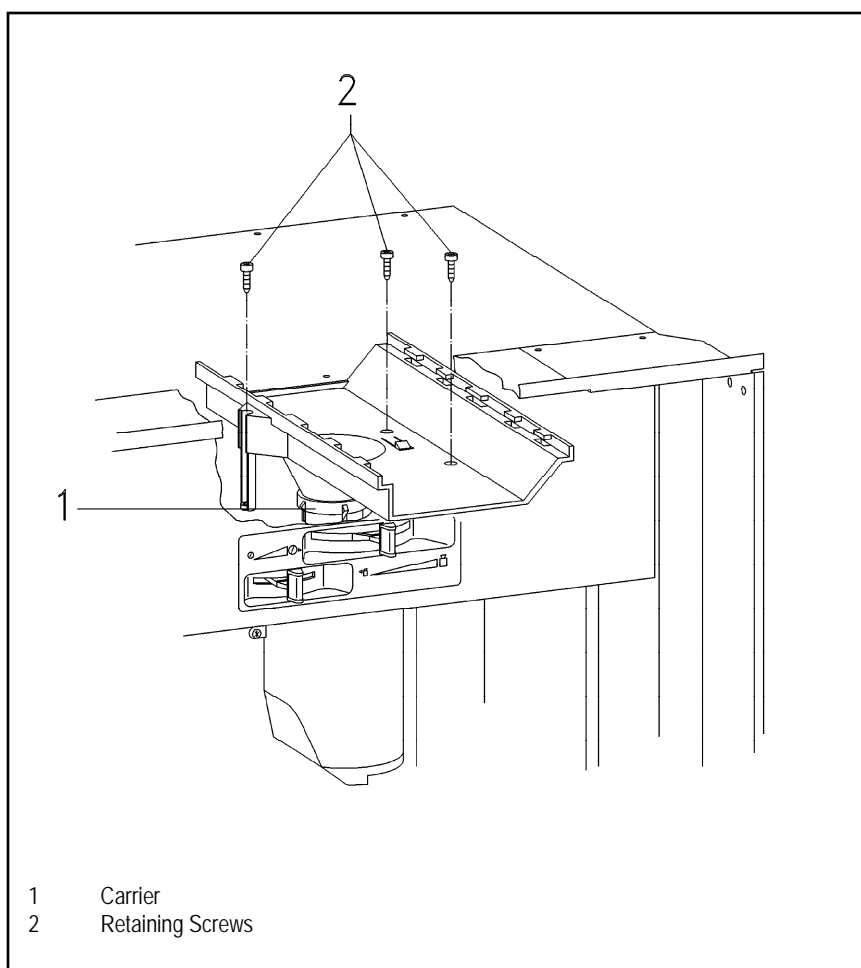

Figure 5-43: Beans Container Guide
5. Remove the guide retaining screws (Figure 5-43, Item 2).
6. Remove the guide and carrier (Figure 5-43, Item 1).